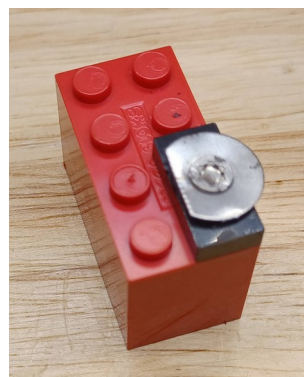

Figure 7: Glue the alpha source on a 1x2 cap. Here the cap is snapped to a block to hold it while gluing.
- *Figure 7*. Glue an alpha source to a 1x2 cap. It is a 1x2 plate without pegs on the top. Caps are hard to find; you can cut the pegs off of a 1x2 plate instead and sand it to make it flat.